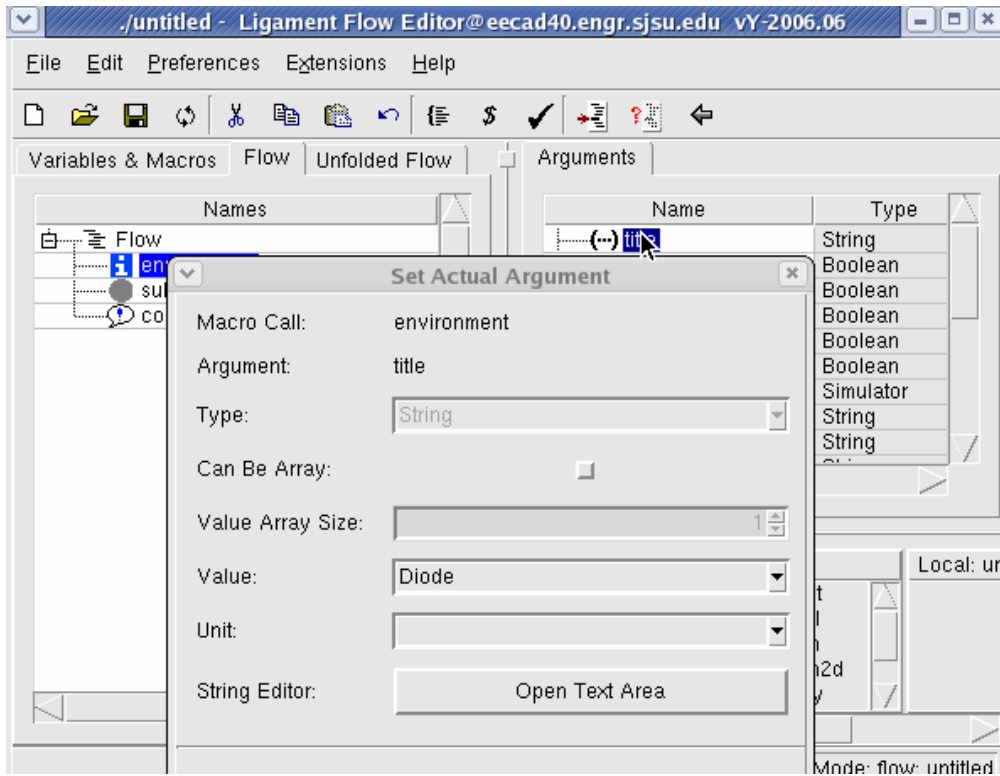

Figure 32: Setting the value of the Title.
3. Double Click on environment and the title (Figure 32), and set the title to Diode (Figure 32).